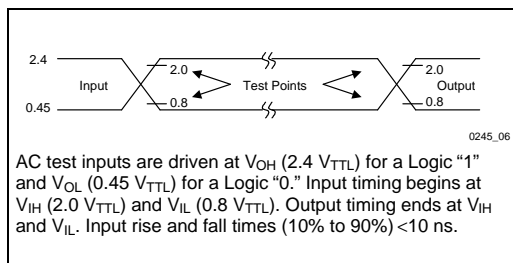
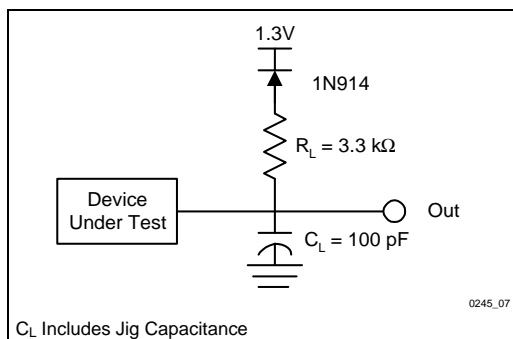

Figure 6. Testing Input/Output Waveform(1)
Figure 7. AC Testing Load Circuit(1)
5. See *Testing Input/Output Waveform* (Figure 6) and *AC Testing Load Circuit* (Figure 7) for testing characteristics.
6. See *Testing Input/Output Waveform* (Figure 6) and *AC Testing Load Circuit* (Figure 7) for testing characteristics.